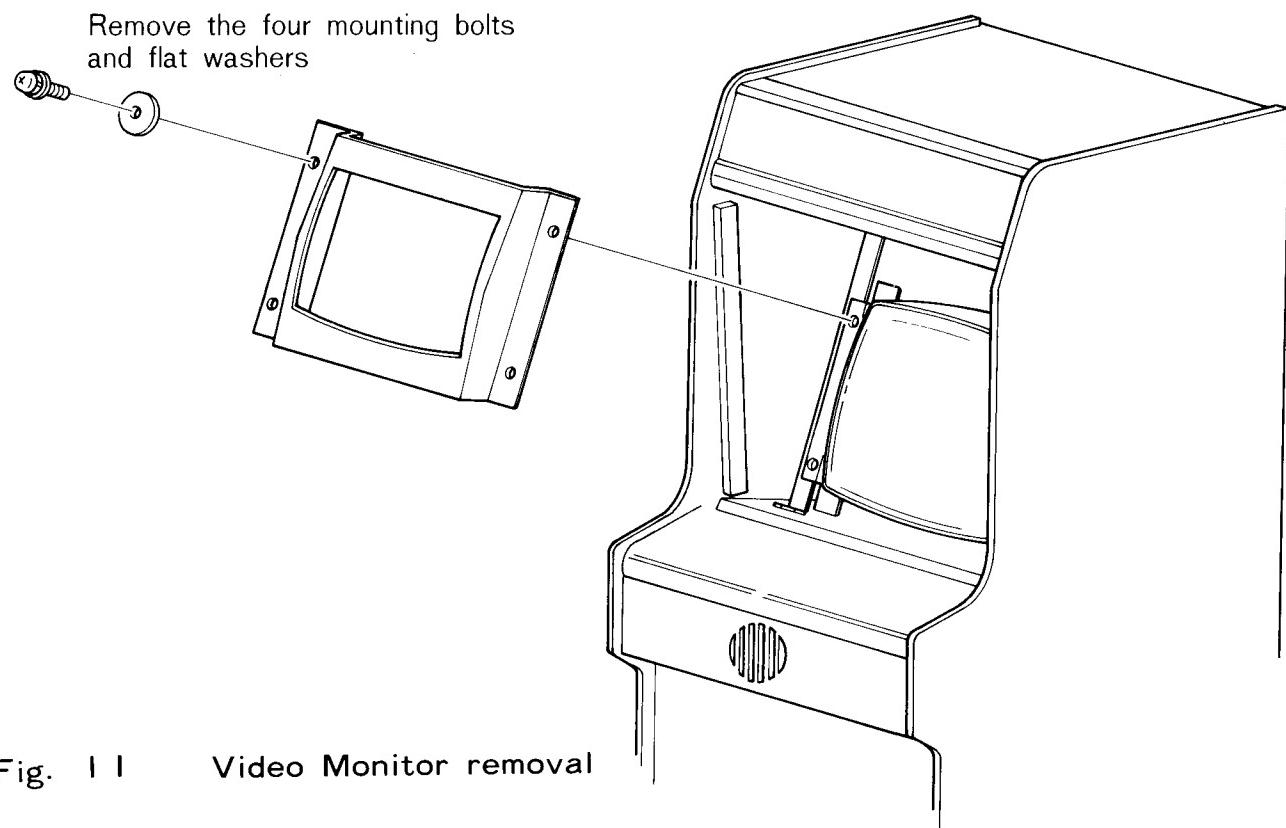

Fig. 11      Video Monitor removal
- (d) Standing at the front opening of the game, remove the four mounting bolts and flat washers. See Fig. 11.